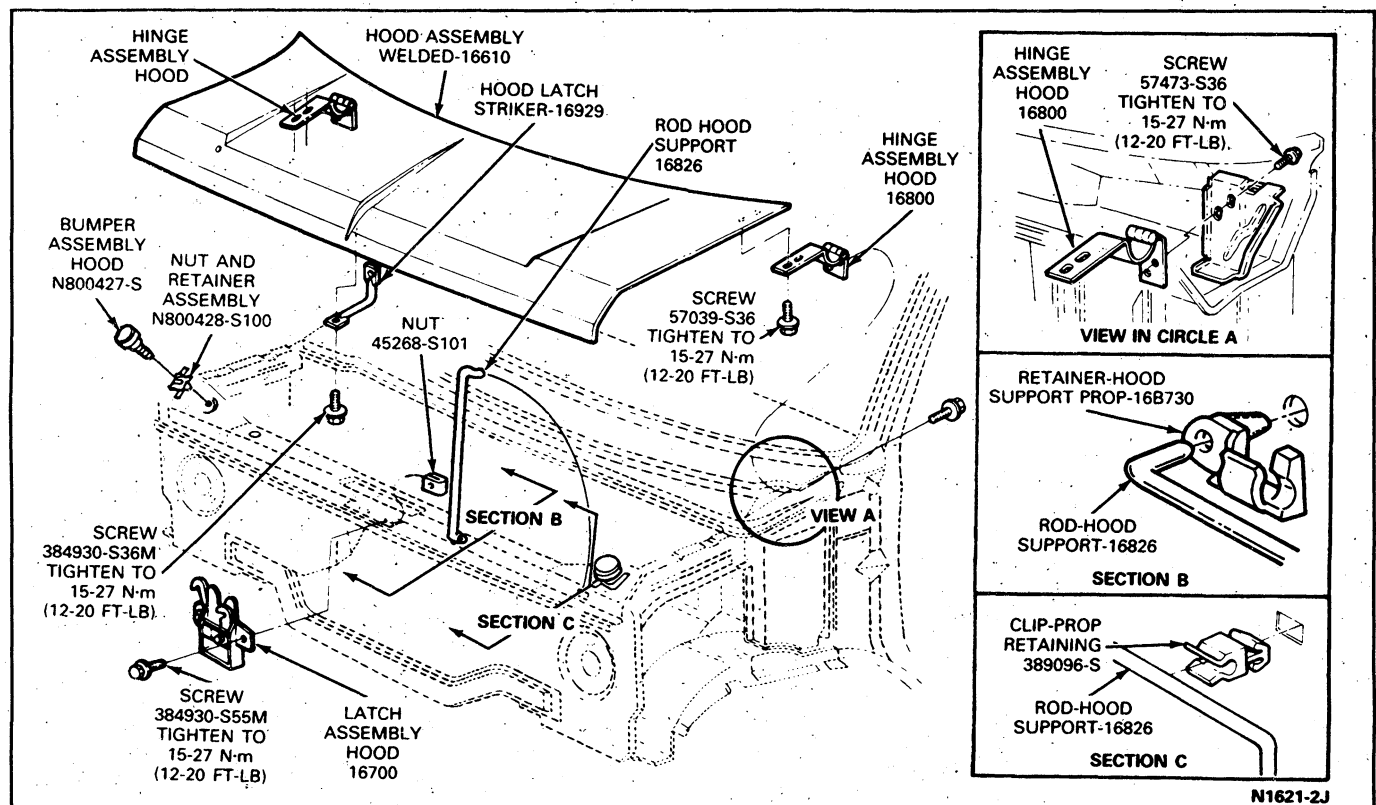

FIG. 1 Hood Latch Adjustment—E-150—E-350
Before adjusting the hood latch, ensure the hood is properly aligned. Refer to Section 44-21, Hood and Hinges. The hood latch can be moved from side to side and up and down to obtain a snug hood fit (Figs. 1 and 2).
2. Remove the hood latch attaching screws and remove the latch assembly (Figs. 1, 2 and 3).